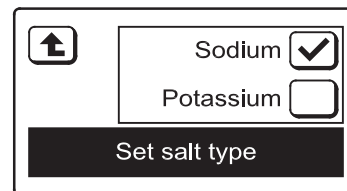

FIG. 68
5. Press the SET SALT TYPE button and the display will change to show the **Set salt type** screen (See Figure 68).